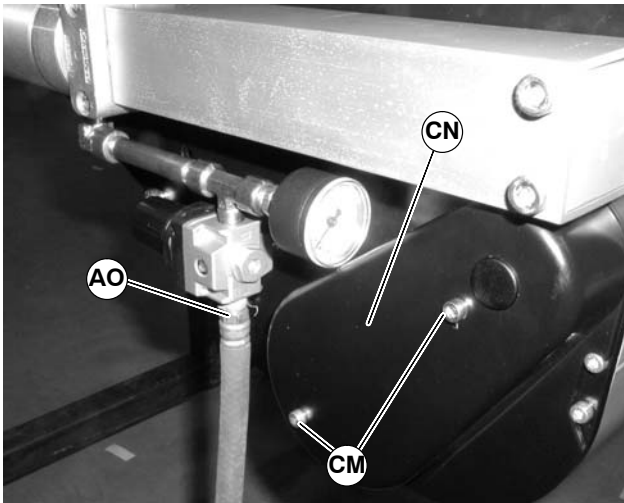

Figure 90
1. Remove air supply (AO of Figure 90) from center drive module.
2. Remove screws (CM of Figure 90) and cover (CN).
8. Reinstall cover (CN of Figure 90). Tighten screws (CM) to 69 in-lbs (8 N-m).